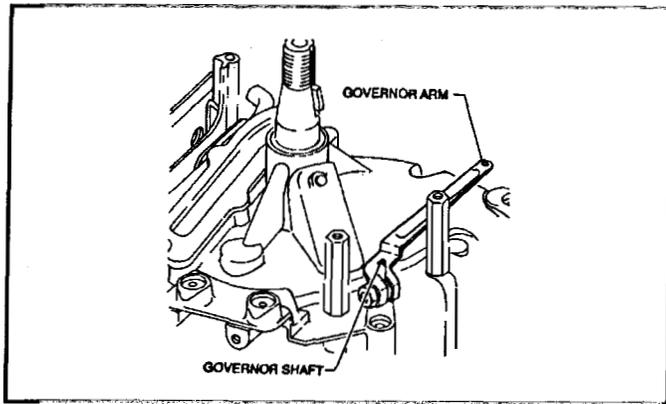

Figure 92
2. Install the governor lever on the governor shaft, leave the lever loose at this time. See Figure 92.